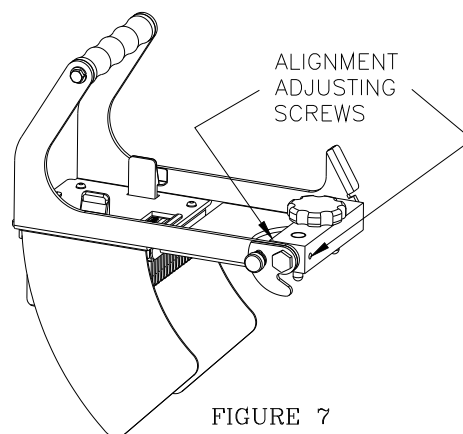

FIGURE 7
2. Locate the alignment adjusting screws shown in figure 7. Determine which direction the pusher should rotate by observing where the pusher fingers align in between the blades. Using a small standard screwdriver you can turn the appropriate screw to rotate the pusher left or right. When adjusting a screw inward the opposing screw must be turned outward or loosened first. Center the pusher fingers and tighten the opposing screw. See figure 8 below. Check alignment again after tightening and adjust again if needed.